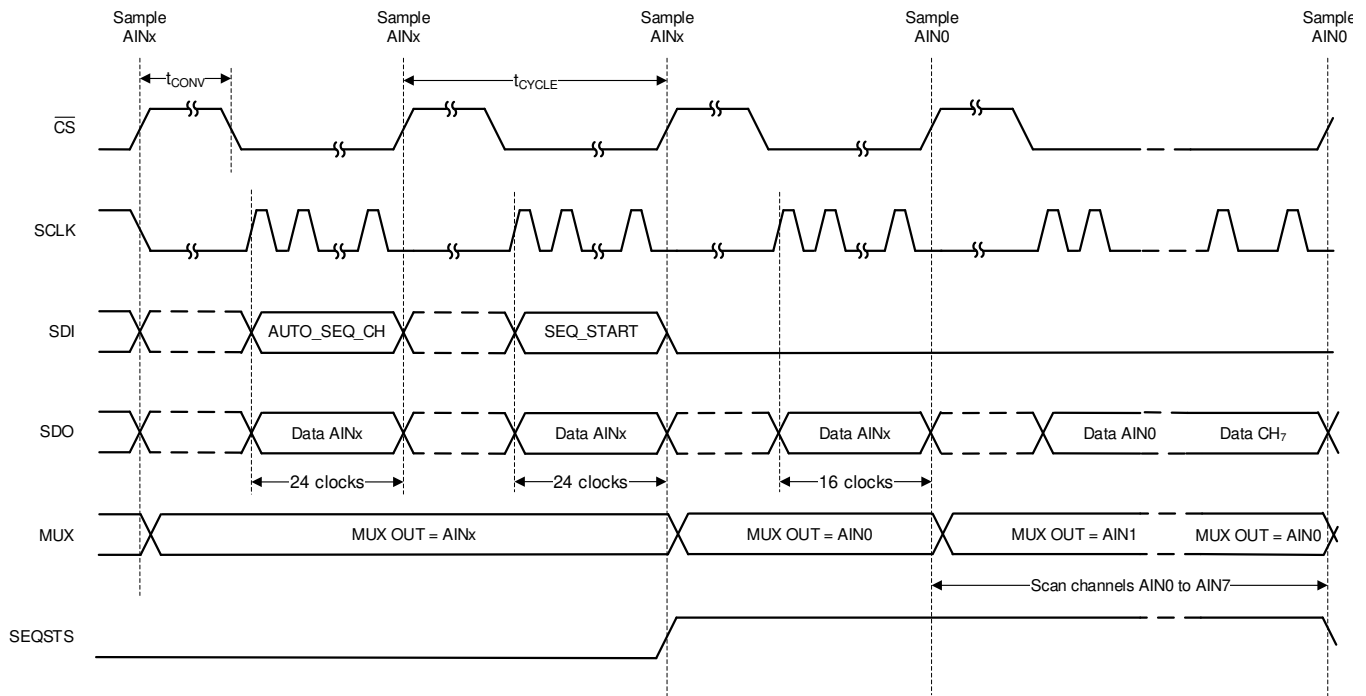
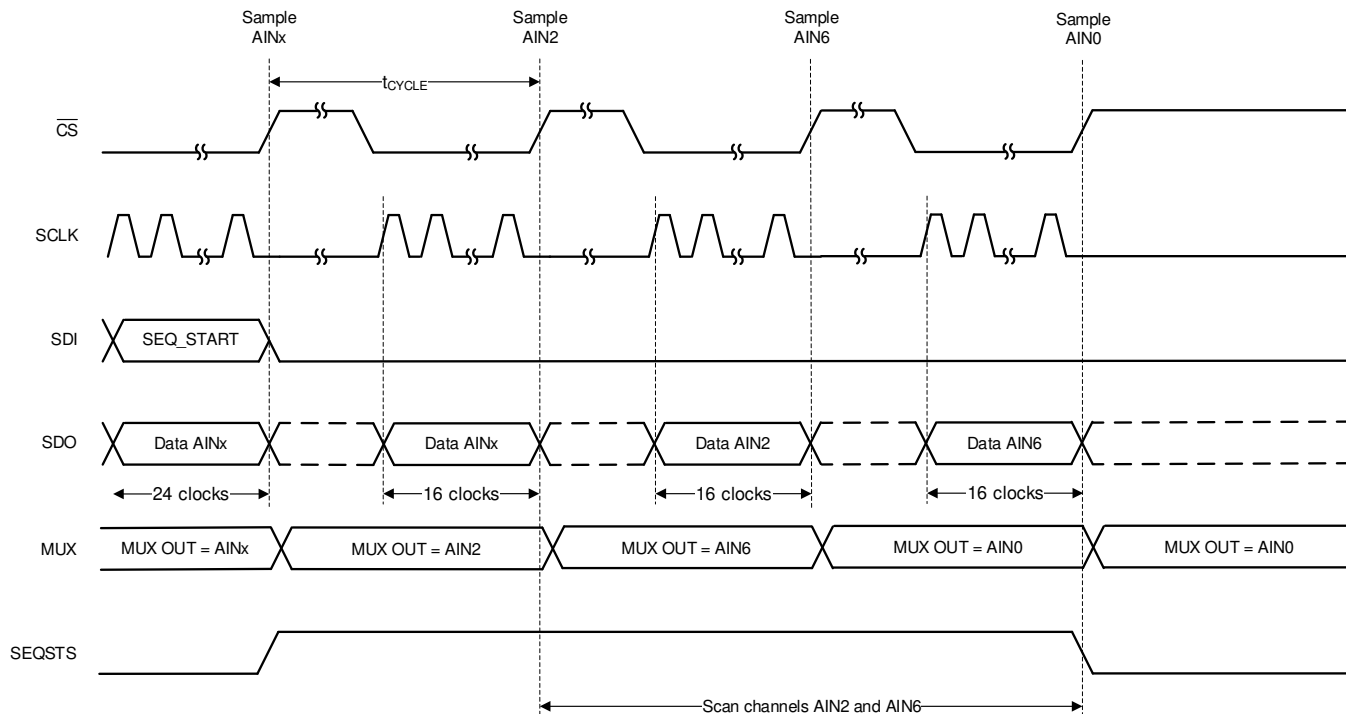

Figure 46. Starting a Sequence in Auto Sequence Mode
Figure 47. Example: Scanning Channels 2 and 6 in Auto Sequence Mode
In auto sequence mode, the internal channel sequencer can selectively scan channels from AIN0 through AIN7 in ascending order. To select auto sequence mode, configure SEQ_MODE to 10b in the DEVICE_CFG register using a 3-byte register access. One or more channels among AIN[7:0] can be enabled by configuring the AUTO_SEQ_CFG1 register. By default all analog input channels are enabled. After enabling the desired channels, the sequence can be started by setting SEQ_START to 1b. The ADC auto-increments through the enabled channels after every CS rising edge. When SEQ_START is set to 1b, the SDO-1/SEQSTS pin is at logic 1 as shown in Figure 46 until the last channel conversion frame is complete. After the last enabled channel conversion is complete, channel AIN0 is selected and SDO-1/SEQSTS is in a high-impedance state.
As an example, Figure 47 depicts a timing diagram for when the device is scanning AIN2 and AIN6 in auto sequence mode. When AIN6 is converted, SDO-1/SEQSTS is Hi-Z and AIN0 is selected as the active channel. At the end of sequence, if more conversion frames are launched the device returns valid data corresponding to AIN0.
- Configure the AUTO_SEQ_CFG1 register. In Figure 47, AUTO_SEQ_CFG1 = 0x44.
- Configure the `AUTO_SEQ_CFG1` register. In Figure 47, `AUTO_SEQ_CFG1 = 0x44`.
After configuring the channel scanning order, start index, and stop index the scanning can be initiated by setting the SEQ_START bit to 1b. The ADC scans through the enabled channels after every CS rising edge as defined by the channel scanning order. When SEQ_START is set to 1b, the SDO-1/SEQSTS pin is pulled high until the last channel conversion frame is complete, as described in Figure 46. As illustrated in Figure 47, channel AIN0 is selected and SEQSTS/SDO-1 goes to Hi-Z after the last enabled channel conversion is complete.
As an example, Figure 47 provides a timing diagram for when the channel configuration is set as in Table 5. When AIN6 is converted, SEQSTS/SDO-1 goes to Hi-Z and AIN0 is selected as the active channel. If more conversion frames are launched at the end of the sequence, the device returns valid data corresponding to AIN0.
- Configure the CCS_START_INDEX and the CCS_END_INDEX registers. In Figure 47, CCS_START_INDEX = 0 and CCS_STOP_INDEX = 1.
- Configure the CCS_SEQ_LOOP register to 1 to indefinitely loop the sequence. In Figure 47, the CCS_SEQ_LOOP register = 0b.